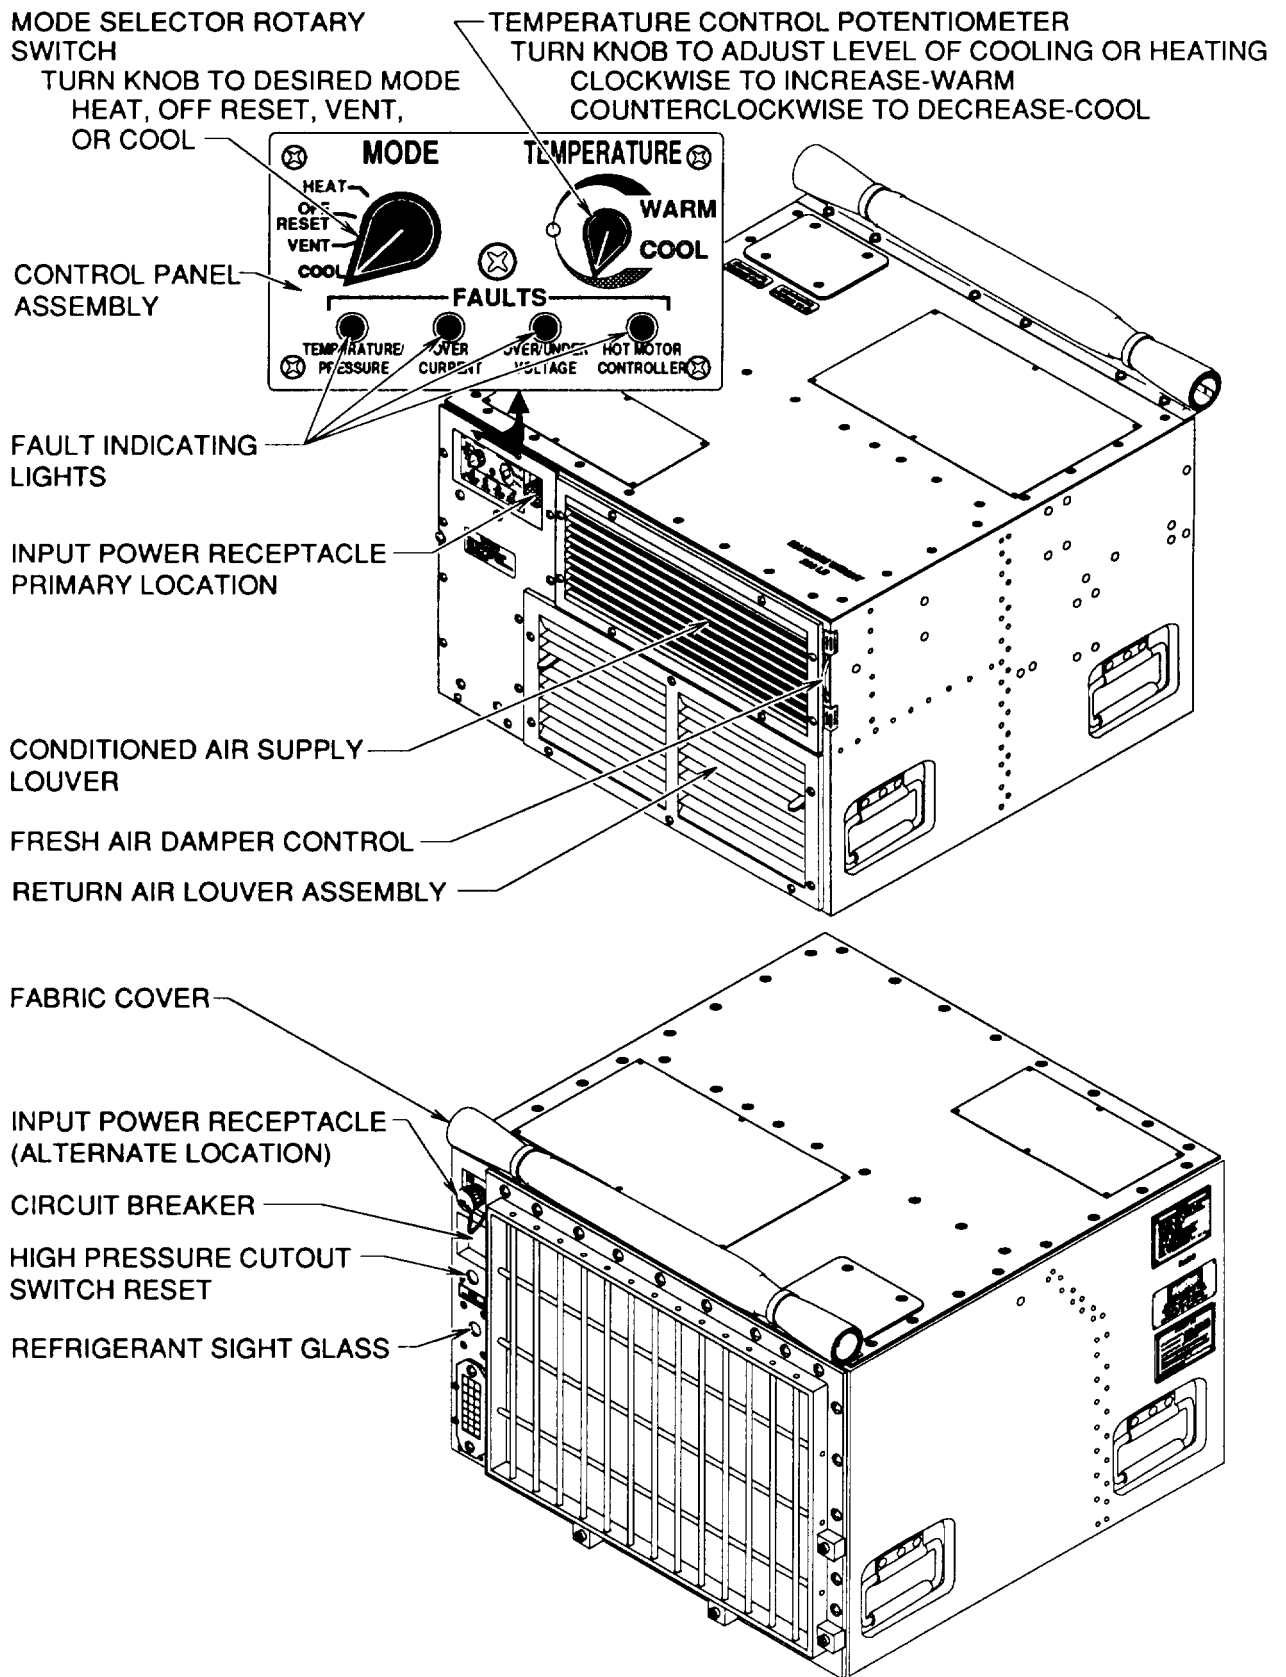

Figure 2-1. Operator's Controls and Indicators
All necessary operator controls are illustrated in figure 2-1. Usage of controls is outlined in General Operating Procedures (paragraph 2-7) and detailed in paragraph 2-8 thru 2-11.
- a. The TEMPERATURE PRESSURE FAULT indicator light (figure 2-1) comes on if the high pressure cutout, low pressure cutout, coil frost, or heater thermostatic switch opens. The switches are associated with the units cooling and heating operation and can be an indication of obstructed airflow across the evaporator or condenser coil or improper refrigerant charge.
- b. The OVER CURRENT FAULT indicator light (figure 2-1) comes on if the motor controller is operating with too high amp draw. This can be an indication of a component failure or wiring problem.
- c. The OVER/UNDER VOLTAGE FAULT indicator light (figure 2-1) comes on if the motor controller is operating outside its voltage range. This could indicate controller failure or a problem with input power.
- d. The HOT MOTOR CONTROLLER FAULT indicator light (figure 2-1) comes on if motor controller overheats.
- e. The refrigerant sight glass (figure 2-1) has a small chamber with a glass window through which the refrigerant condition can be observed. It is installed in the liquid refrigerant line downstream from the condenser coil. Liquid refrigerant actually flows through the sight glass chamber only during cooling cycles when the air conditioner is in operation in the COOL mode. The unit must be operated approximately 15 minutes at maximum cooling prior to checking condition of refrigerant at sight glass. The sight glass is equipped with a center indicator that is moisture sensitive. Dry refrigerant is indicated by green, it turns to chartreuse when the moisture content becomes undesirable, and to yellow when the level becomes unacceptable. Excessive moisture in the refrigerant may damage or possibly destroy the compressor. If the liquid refrigerant observed in the sight glass has a milky appearance, or frequent bubbles appear, the volume of refrigerant is low and the system should be charged. Either moisture or low charge indications should be reported to direct support maintenance for appropriate refrigeration system action.